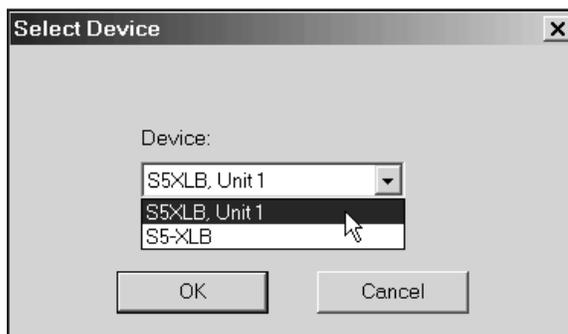

Figure 56 Select Device Dialog
1. Select **System | Gamma Amplifier Setup**. Select the *Device* to be setup from the Select Devices dialog box (Figure 56) and click **OK**.